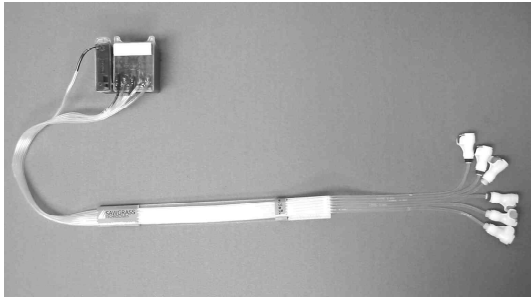

Fig. 1
1. Set the cartridges and attached support structure down on a level surface with the cartridges tilted forward onto their front edges. Carefully arrange the female connectors so they are easily identified and not tangled. See Fig. 1.